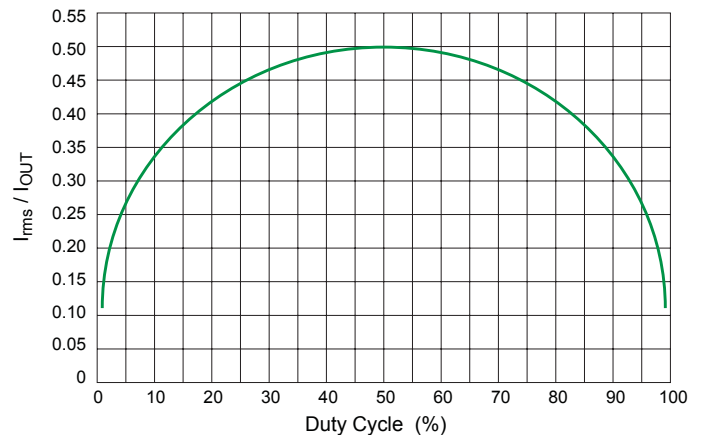

Figure 11. Input capacitor ripple versus duty cycle
Figure 11 shows the normalized input capacitor rms current versus duty cycle. To use this graph, simply find the operational duty cycle (D) on the x-axis and determine the input/output current multiplier on the y-axis. For example, at a 20% duty cycle, the input/output current multiplier is 0.40. Therefore, if the regulator is delivering 2.0 A of steady-state load current, the input capacitor(s) must support  $0.40 \times 2.0$  A or 0.8 ARMS.